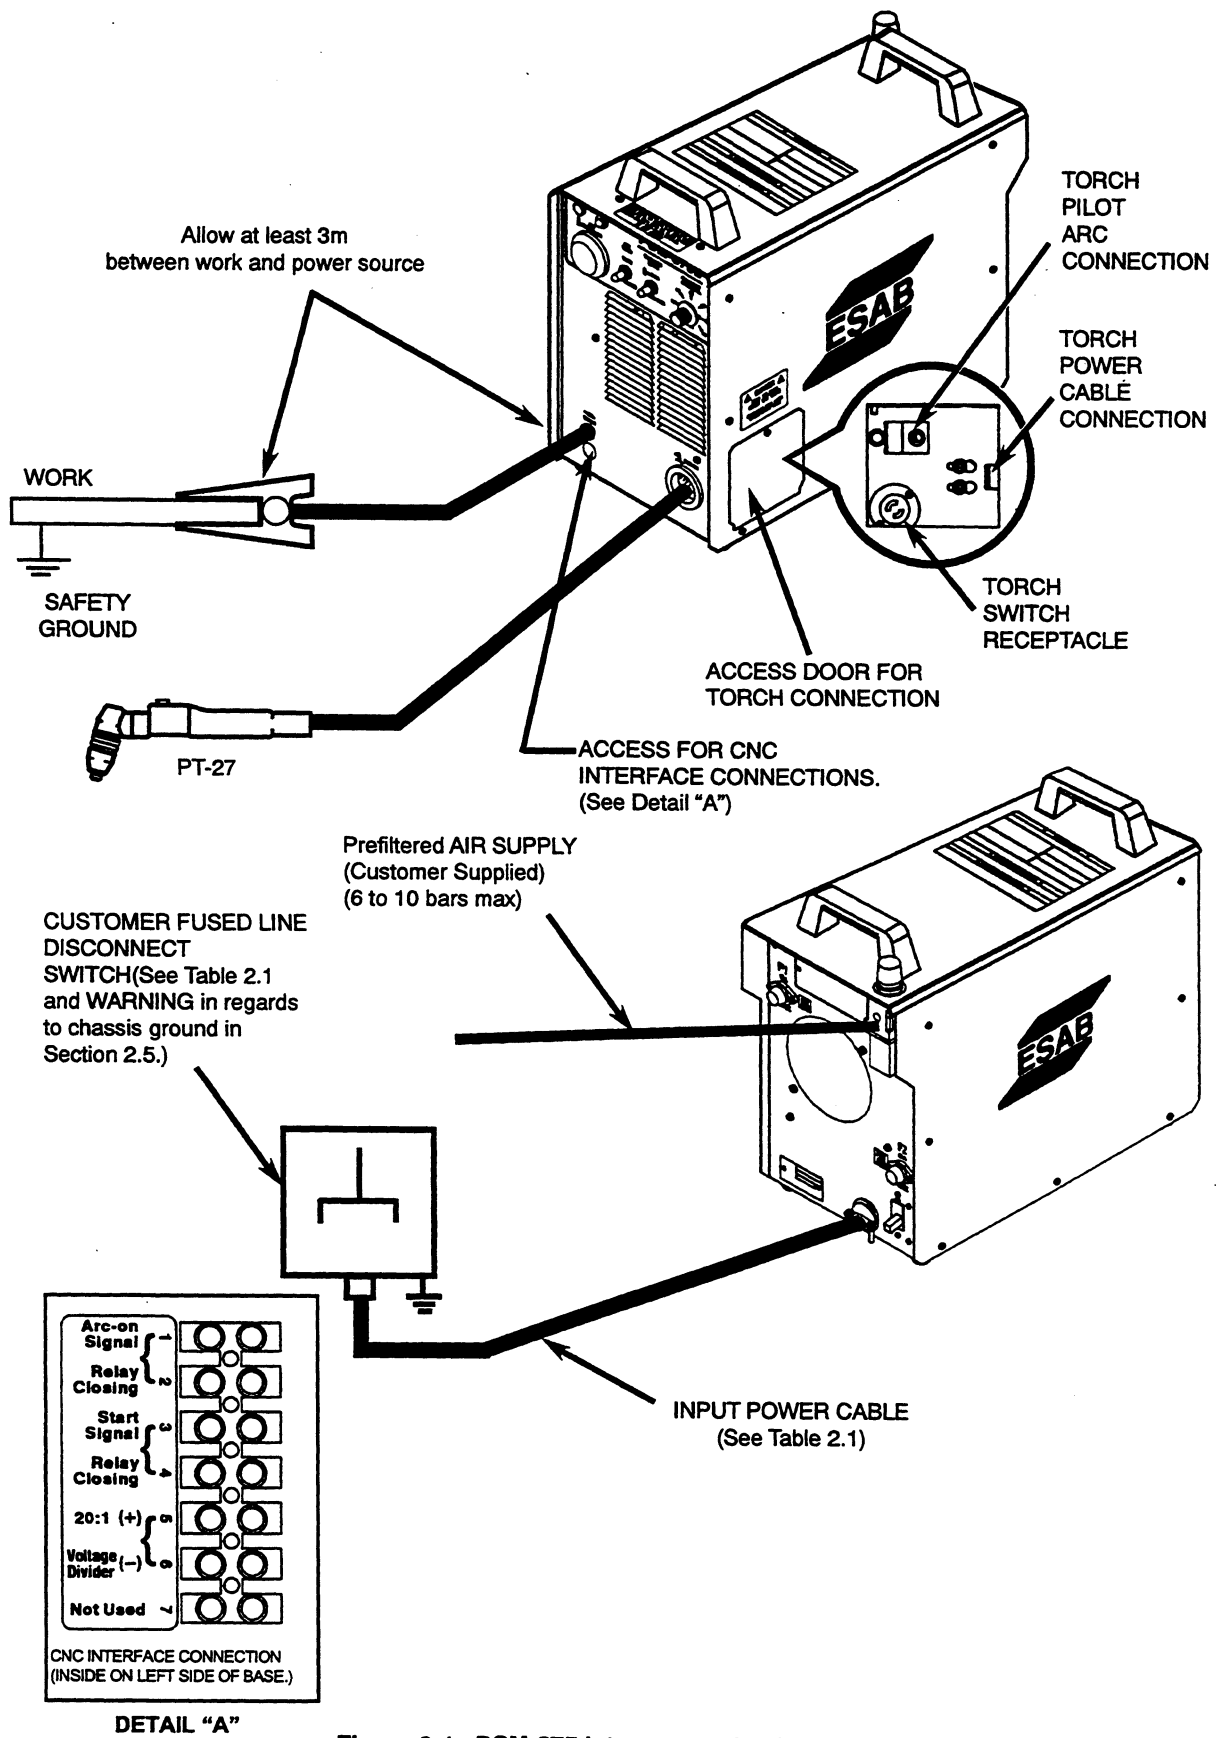

Figure 2-1. PCM-875 Interconnection Diagram
2.5 PRIMARY ELECTRICAL INPUT CONNECTIONS (FIGURE 2-1)
A line (wall) disconnect switch with fuses or circuit breakers should be provided at the main power panel (see Fig. 2-1 and Table 2-1 for fuse sizes). The input power cable of the console may be connected directly to the disconnect switch or you may purchase a proper plug and receptacle from a local electrical supplier. If using plug/receptacle combination, see Table 2-1 for recommended input conductors for connecting receptacle to line disconnect switch.
2.6 SECONDARY (OUTPUT) CONNECTIONS (REFER TO FIG. 2-1)